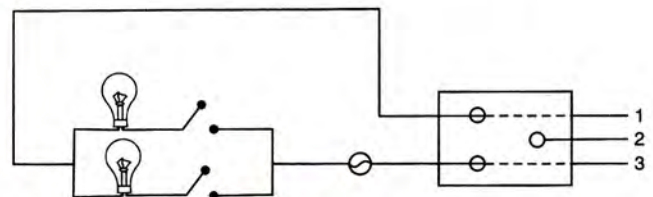

Fig. 9.29
31. Fig. 9.29 below shows two bulbs with switches and fuse connected to the mains through a three pin socket by means of a three wires cable.